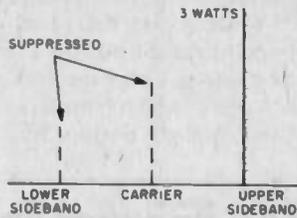

Fig. 4. One sideband receives all the power once used by the suppressed carrier and the other sideband.
**Suppressing the Villains.** Now take the array of signals and let's repack them in far more efficient fashion. As shown in Fig. 4, the same three RF watts have been completely jammed into the upper sideband. The carrier is now considered *suppressed*, its energy poured into the upper sideband. Similarly, the lower sideband is suppressed
and its energy also shifted to the upper sideband. Now, every bit of RF wattage is serving the cause: to send maximum voice power without violating FCC power restrictions. Before seeing how this three-into-one package is created, note another important benefit in Fig. 4. The signal—now single sideband—is far narrower than the original. It's about 3 kHz wide instead of 6 or more kHz. This is behind the claim that sideband takes 23 channels and doubles them to 46. It's possible for two independent sideband stations to operate on the same assigned channel; one selects the lower sideband as the other transmits on the upper position. Since they're several kHz apart, there's no mutual interference. What's more, these stations will not produce those annoying heterodynes usually heard on a busy band. Sideband stations transmit no carriers to create this type of interference.